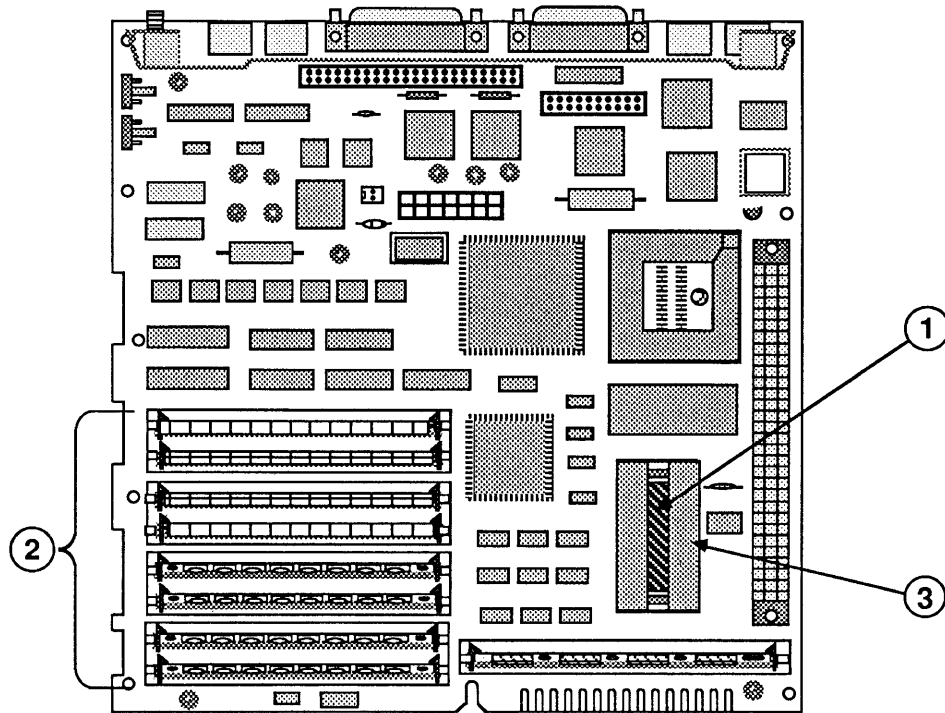

FIGURE 6
□ LOGIC BOARD – MACINTOSH SE/30 (Figure 6)